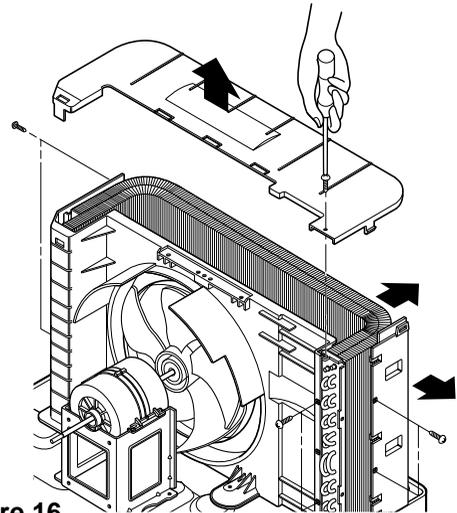

Figure 16
3. Remove 2 screws which fasten the side cover. (See Fig. 16)
7. Re-install the components by referring to notes. (See Fig. 16)